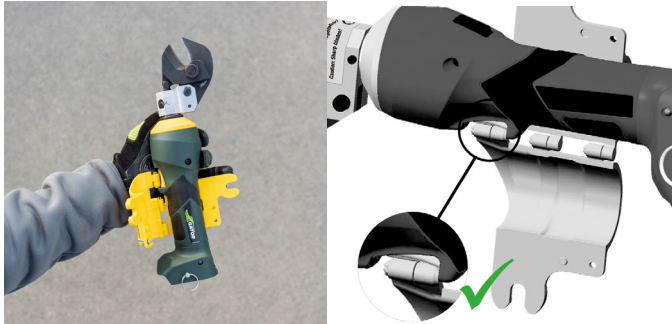

Figure 2
- iii. Open the mount and place it around the housing of the In-Line Remote Cutter. Line up the hinge with the trigger. (Fig. 2)